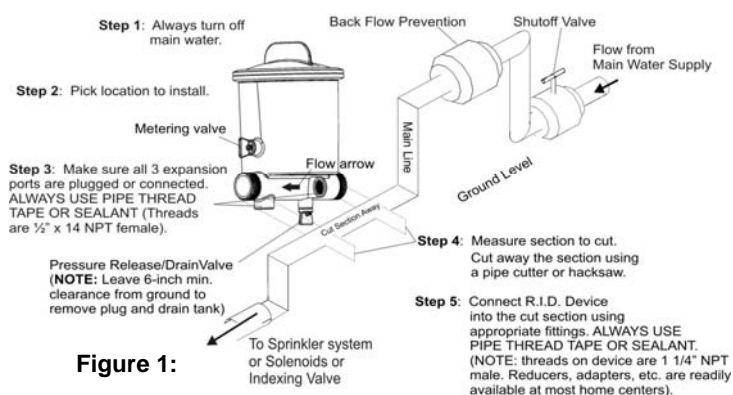

Figure 1:
Step 1: Turn off the main water supply before beginning work. See Figure 1.
Step 2: The R.I.D. system should be adequately supported and placed in a convenient location that is easily accessible and away from persistent sunlight. Select a location before the sprinkler systems solenoid or indexing valves and after the main line backflow prevention and manual master shutoff valve. See Figure 1. **Caution:** Be sure to install backflow prevention, as required by local code.
Step 4: Carefully measure the main irrigation line and cut away using a pipe cutter or hacksaw. The R.I.D. device measures 9". **PRIOR TO CUTTING** be sure to factor the appropriate length of any fittings as well. See Figure 1. NOTE: The device will operate with 3/4" - 1 1/4" lines. Reducing pipe alternate approaches can be made by using appropriate reducers, adapters or threaded unions, available at most home centers.